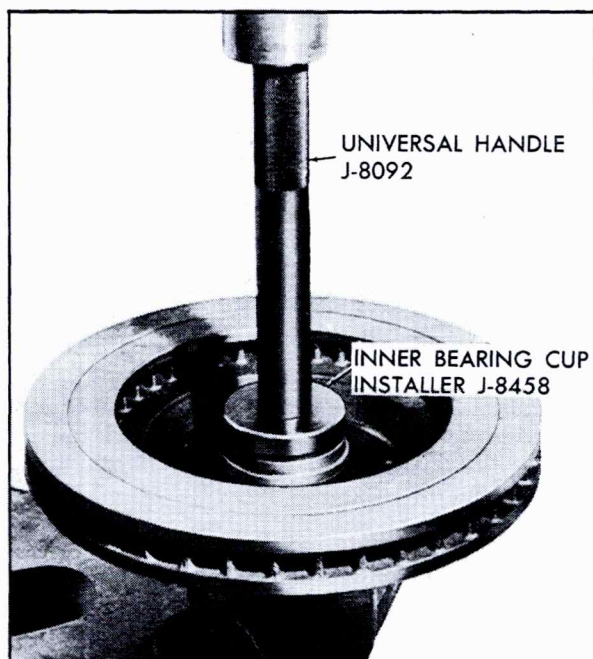

Fig. 3-29 Installing Inner Bearing Cup
4. Install inner bearing cup, using Front Hub Inner Bearing Cup Installer, J-8458, and Handle, J-8092. Use arbor press to install bearing cup in hub, Fig. 3-29.